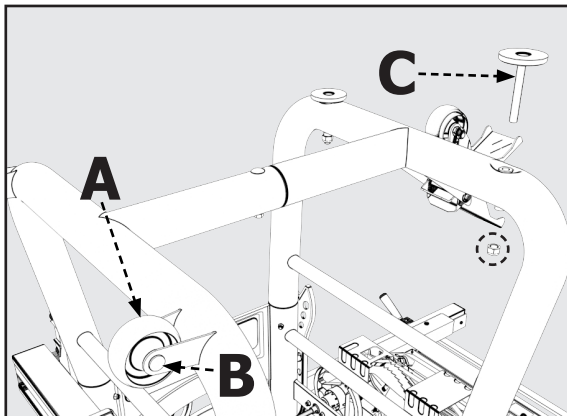
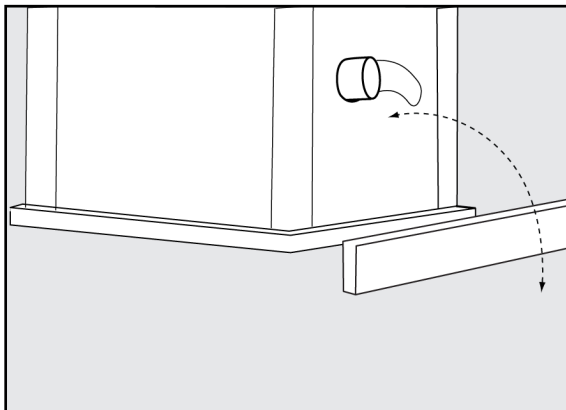

FIGURE 2
FIGURE 3
1. Attach the two fixed wheels (A) to the left leg, opposite the pivot caster, using the M8 x 53 axle pin and M8 Nylock nut (151, 155) as seen in Figure 2.
2. Screw the adjustable feet (C) into the threaded insets in the right leg next to the pivot caster.
3. Lay a scrap piece of 2x4 in back of the saw, as shown in Figure 3, to prevent damage to the dust chute when righting the saw.
5. Modify the two Adjustable Feet (C) by screwing them in and out of the leg. The feet may be adjusted to level the saw and locked in place by tightening the M12 nut on the top. See Figure 2.